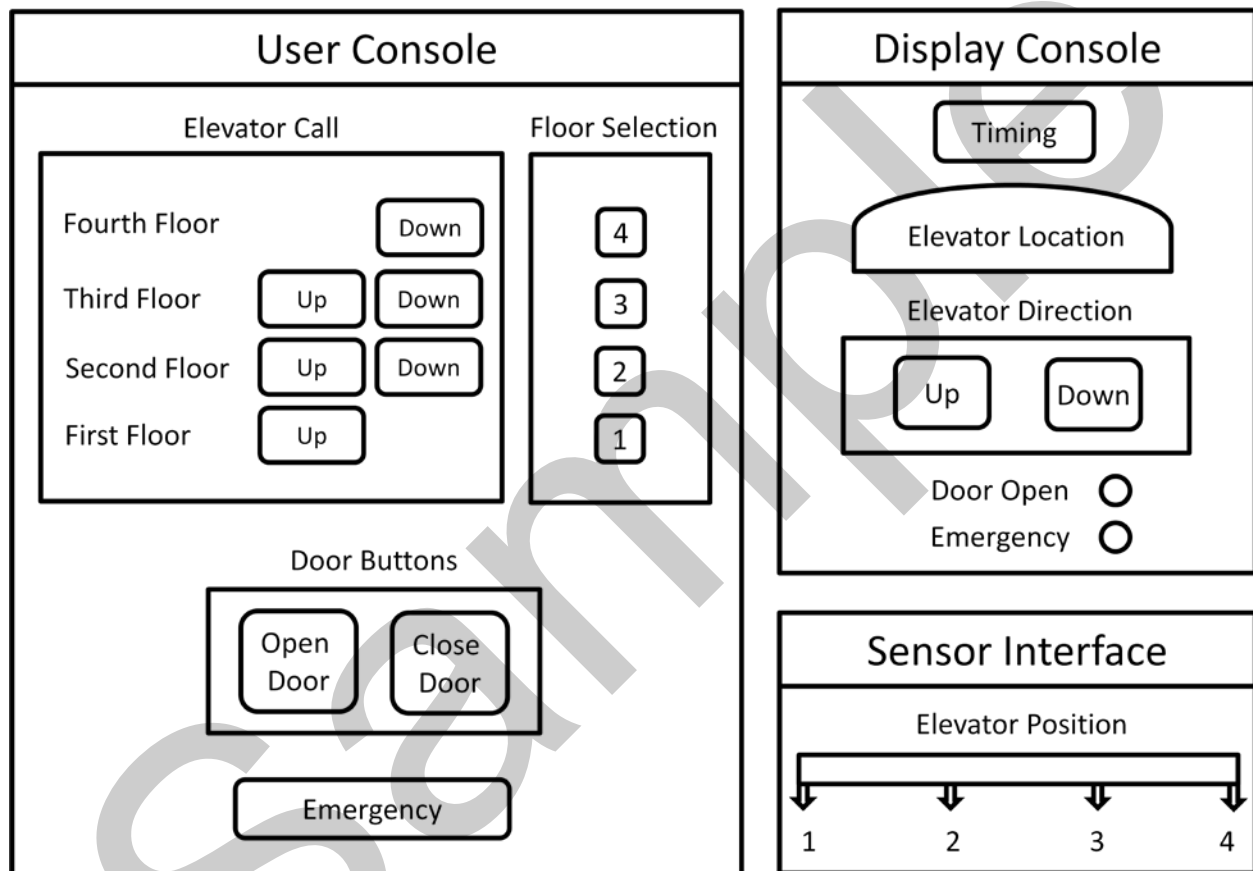

Figure 1: User Interface Sketch
- UI1. The Simulation User Interface mimics the *Figure 1* sketch.